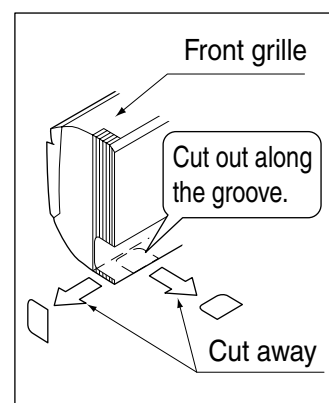

Fig. 4
- Check the location for the hole using the included paper pattern for installation (3).
- Temporarily attach the installation panel (1) at the temporary-securing position on the paper pattern for installation (3) and use a level to make sure the drain hose is either level or tilted slightly downward.
- Secure the installation panel (1) to the wall using either screws or bolts.
- If using the attachment screws for the installation panel (2), attach using at least 4 screws on either side (for a total of 8 screws (20-32 type), 9 screws (40-63 type)) of the recommended installation cleat position on the included paper pattern for installation (3).
(3) If using the left, bottom-left, right, or bottom-right positions for the piping, cut out the through-hole for the piping in the front grille. (Refer to Fig. 4)